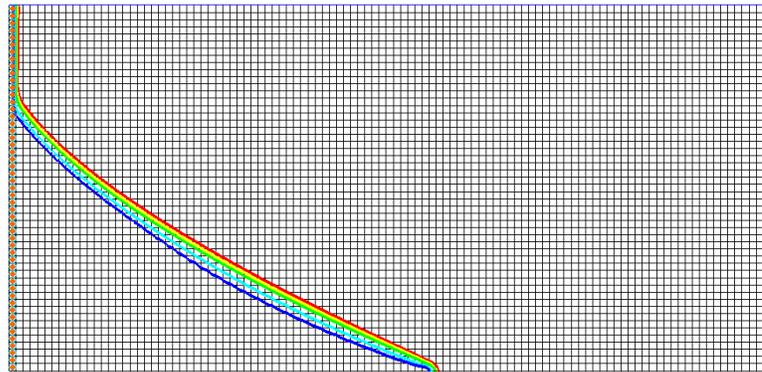

Figure 6 Time step 4 (after 15 minutes)
- Select time step 4 in the time step window (Figure 6).